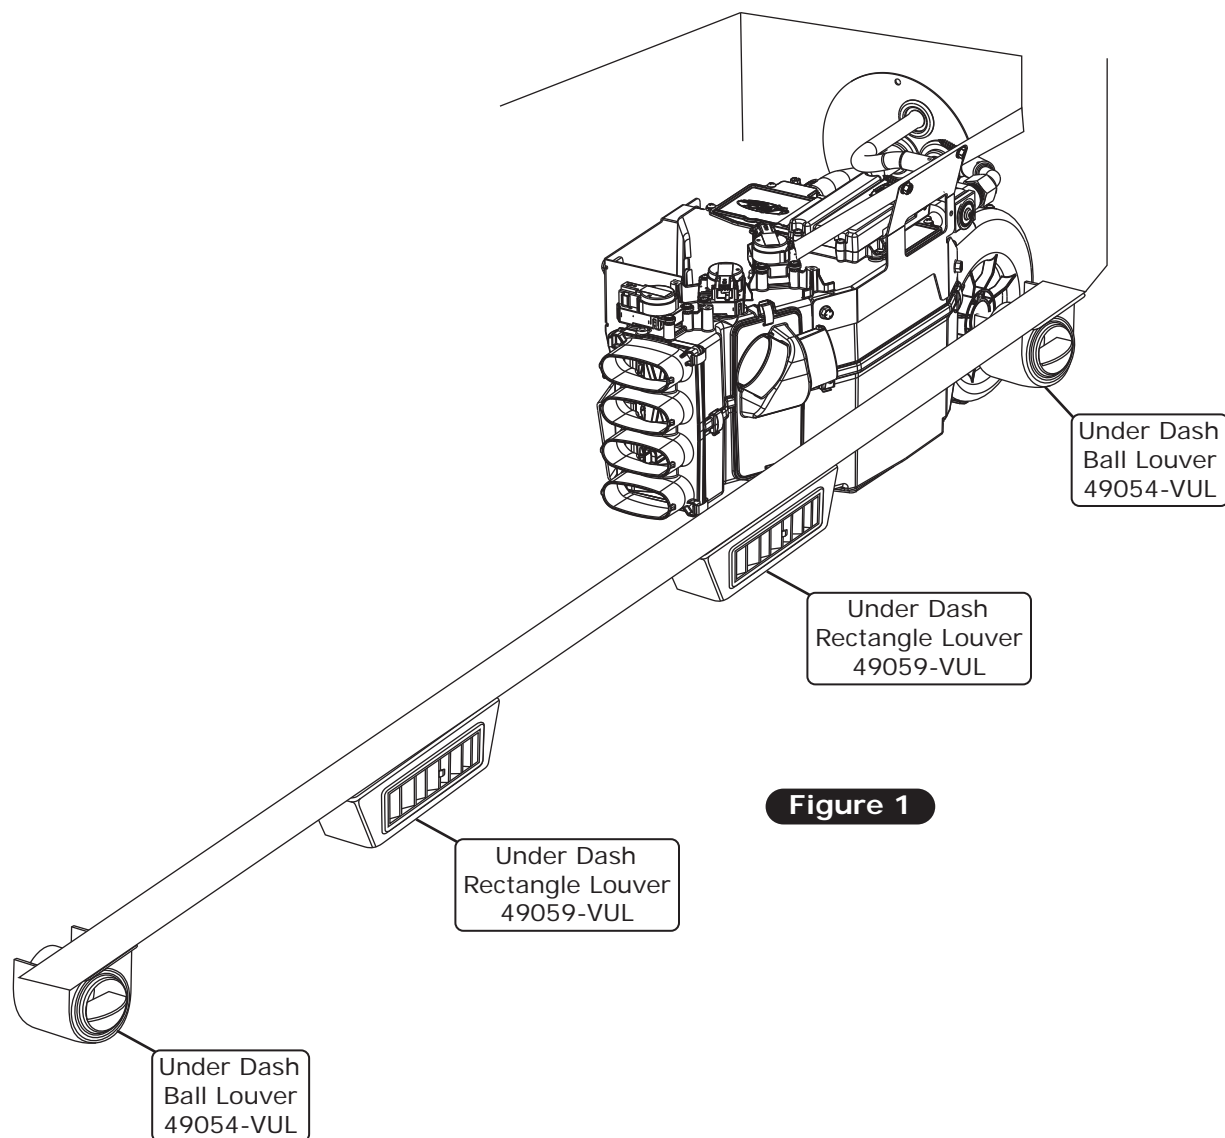

Figure 1
1. Install the duct hoses as shown in Figure 1, Page 17.